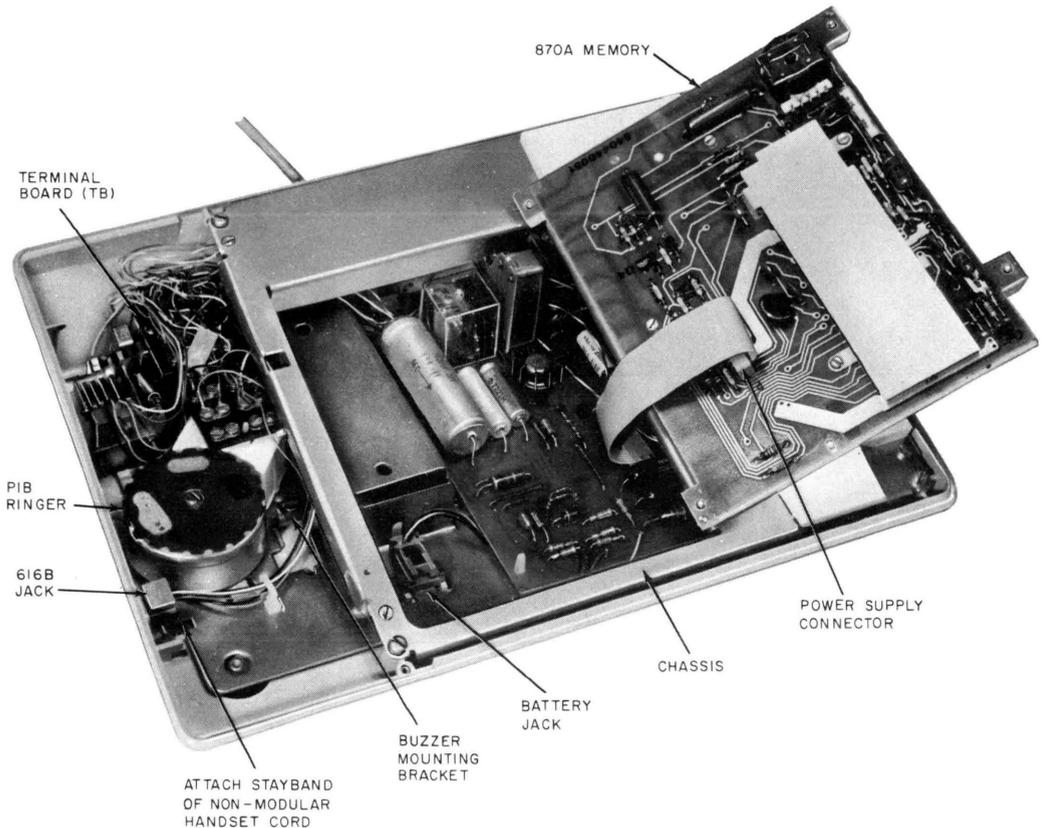

Fig. 3—870A1M Telephone Set, Internal View, Overall
- (1) Remove faceplate (3.18) and place handset aside.
- (2) Remove handset cradle (3.19).
- (3) Remove screw from buzzer mounting bracket, and mount buzzer on bracket as shown in Fig. 3.